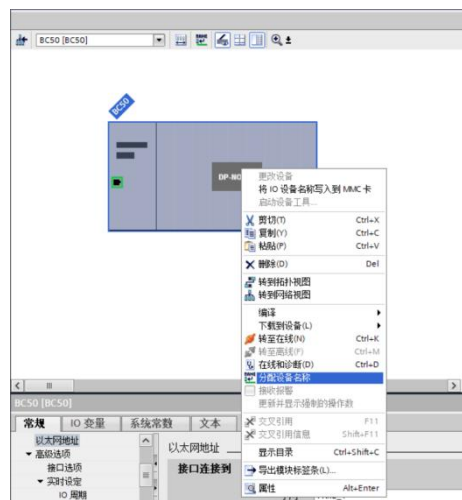

Fig75. PLC Profinet-Configure the device name for the BC50 code reader
- Double-click the icon of the BC50 to enter the separate hardware Settings interface (see Fig 75), Then right-click the BC50 icon and select the assigned device name.